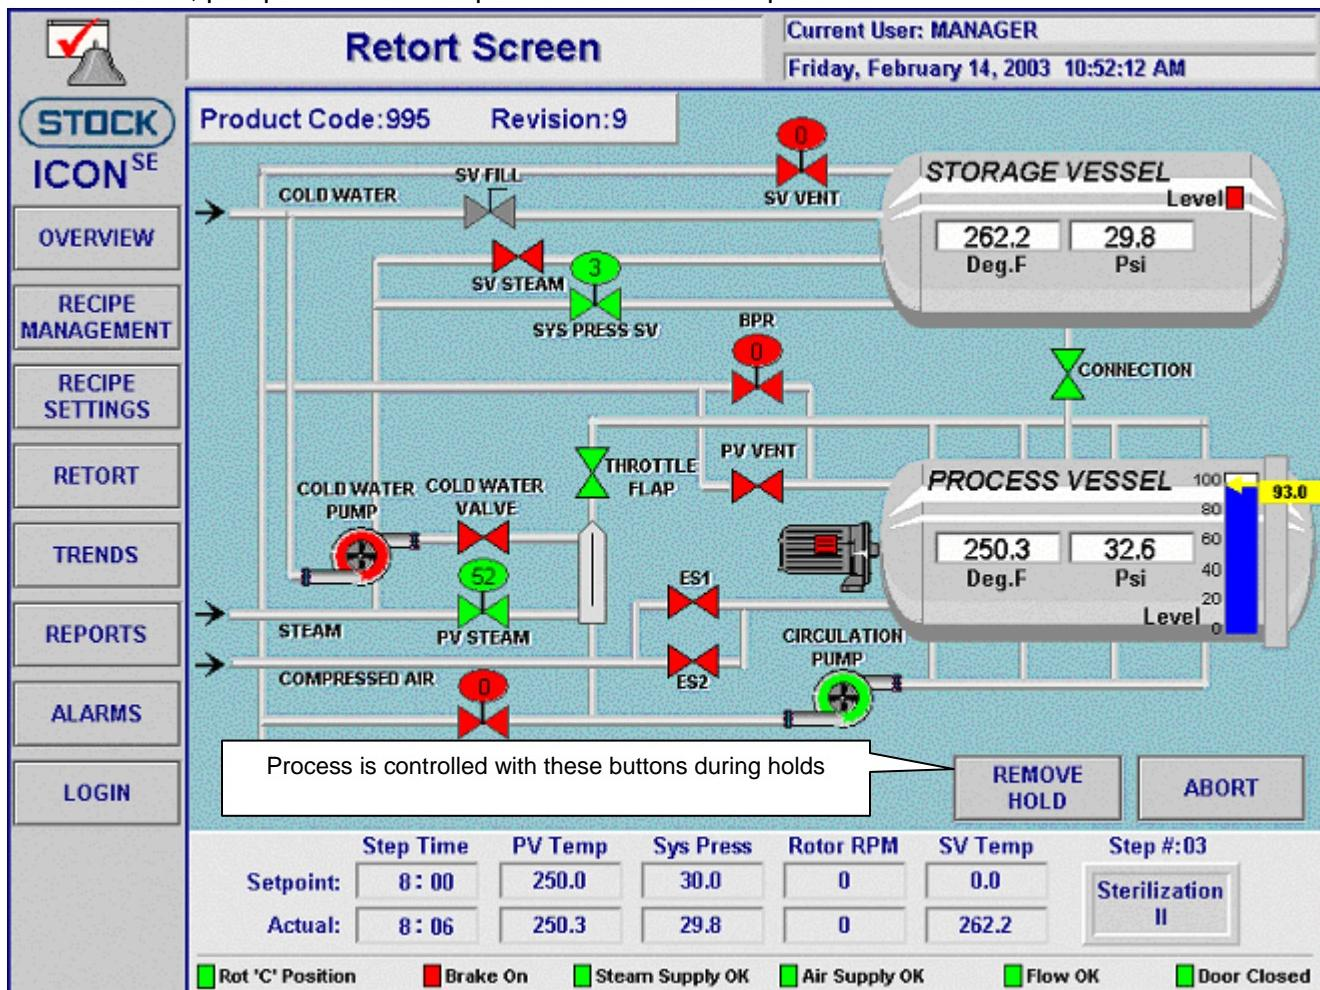

Fig 8.14
- Select Remove Hold button on Retort Screen when ready to continue process steps again. (Fig 8.14)